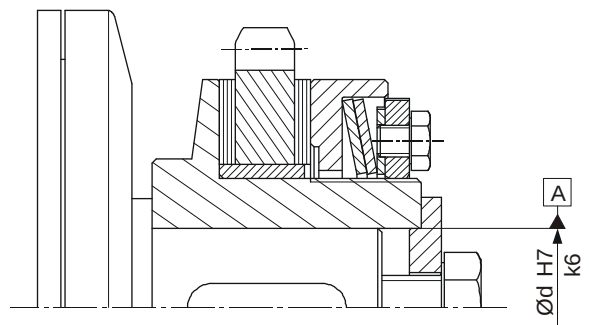

Fig. 11
The slip hub can be fixed axially onto the motor shaft end by means of a regulating screw (item 8, Fig. 1) or as shown on Fig. 11 by means of a cover.
We recommend to use a k6-fit for the shaft (see Fig. 11).